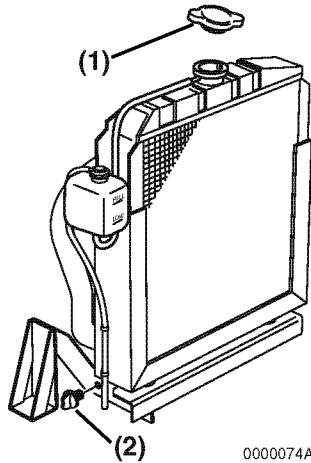

Figure 19
2. Remove the radiator cap (**Figure 19, (1)**).
3. Remove the drain plug or open the drain cock (**Figure 19, (2)**) at the bottom of the radiator and drain the engine coolant.